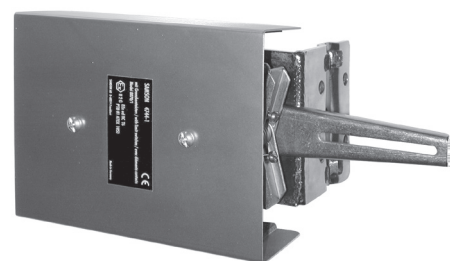

Fig. 1: Type 4744 Electric Limit Switch with protective cover
- **Type 4744** (Fig. 1 and Fig. 2)